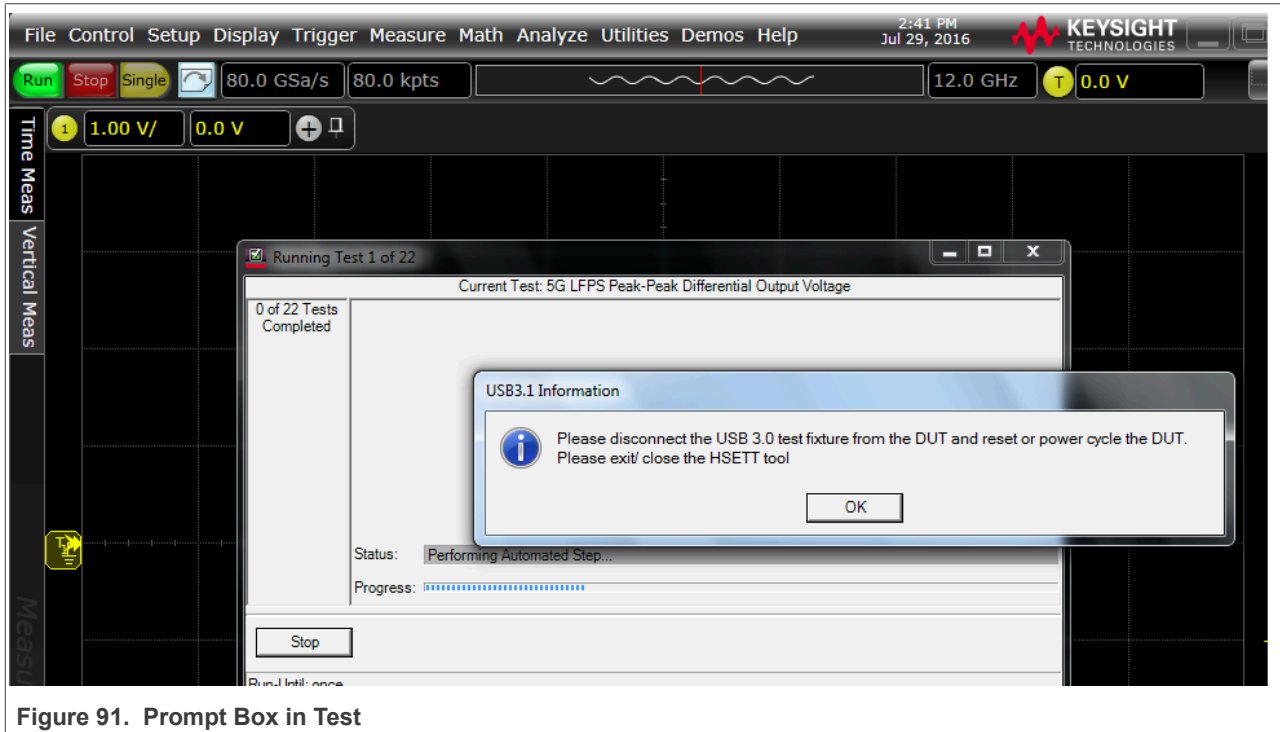
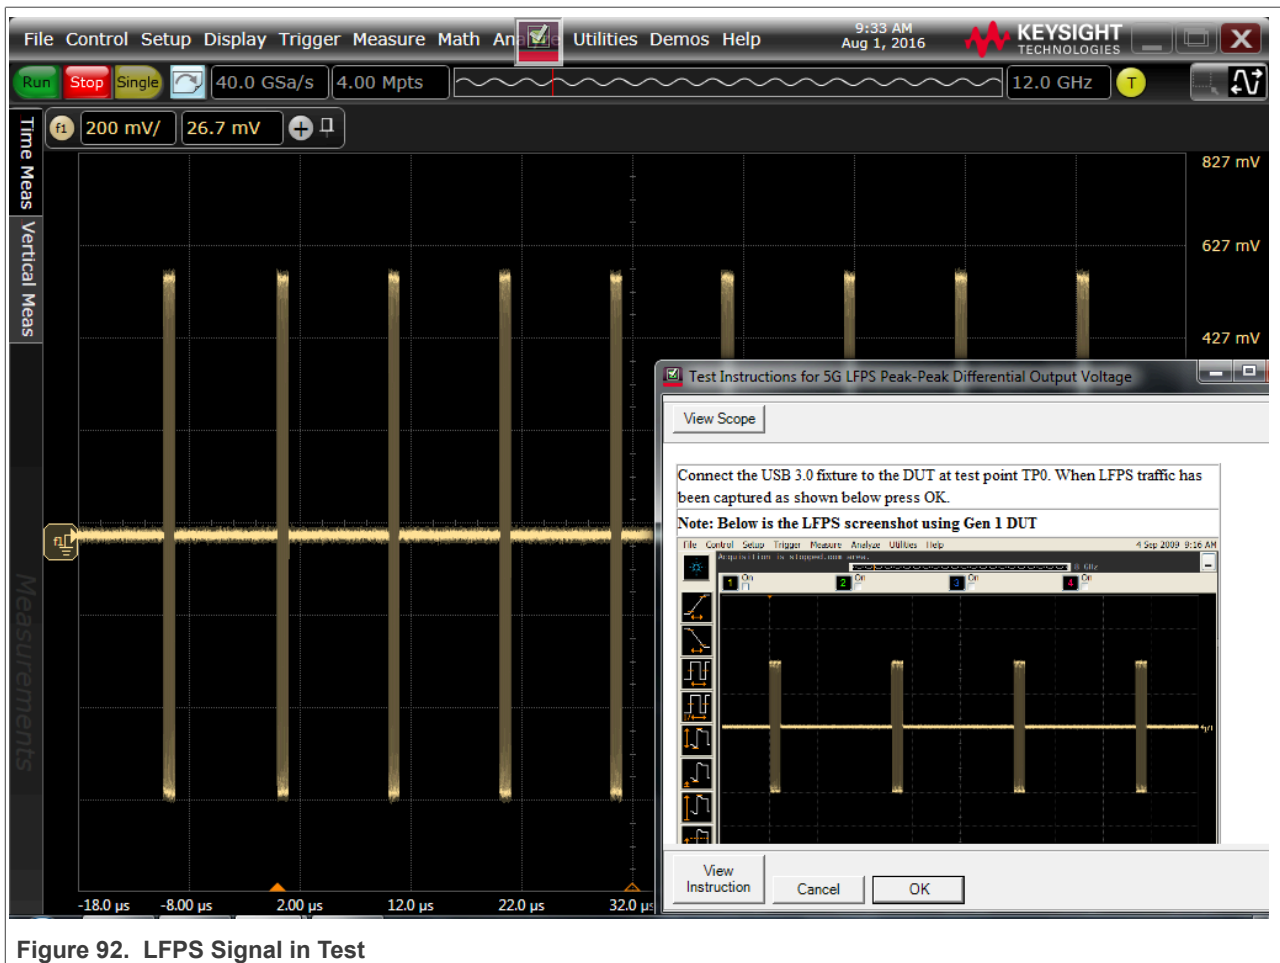

Figure 91. Prompt Box in Test
Figure 92. LFPS Signal in Test
9. In test execution, the test software pops up the right image in Figure 91. Disconnect the DUT and USB test fixture, then **restart DUT**, and click OK. When the dialog information appears again, power on DUT normally, then connect DUT to USB test fixture, and make sure that the LFPS signal is captured at the same time. If the captured waveform is the same with the reference, click **OK** in Figure 92.